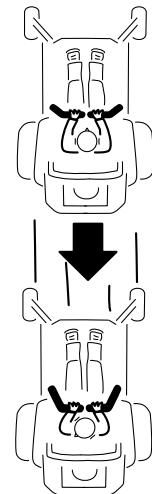

Figure 20
To go straight, apply equal pressure to both motion-control levers (Figure 20).
2. To go backward, look behind you and down, as you slowly pull the motion-control levers rearward (Figure 20).